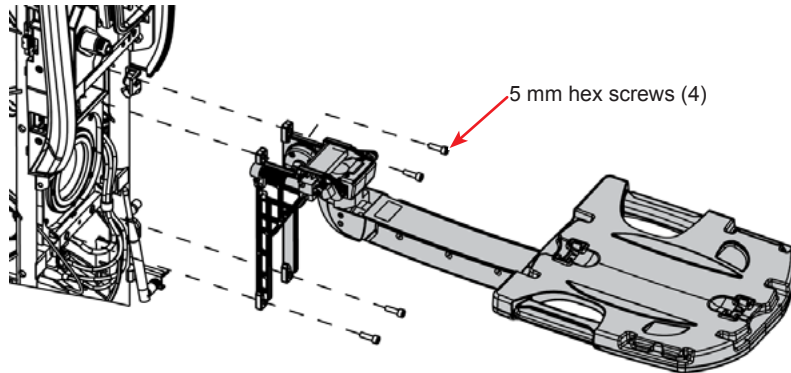

Figure 3-16 Tray Arm Assembly Removal
- 22.2 Remove four 5 mm hex screws (bottom screws first) securing Tray Arm Assembly to chassis and remove from console (see Figure 3-16).